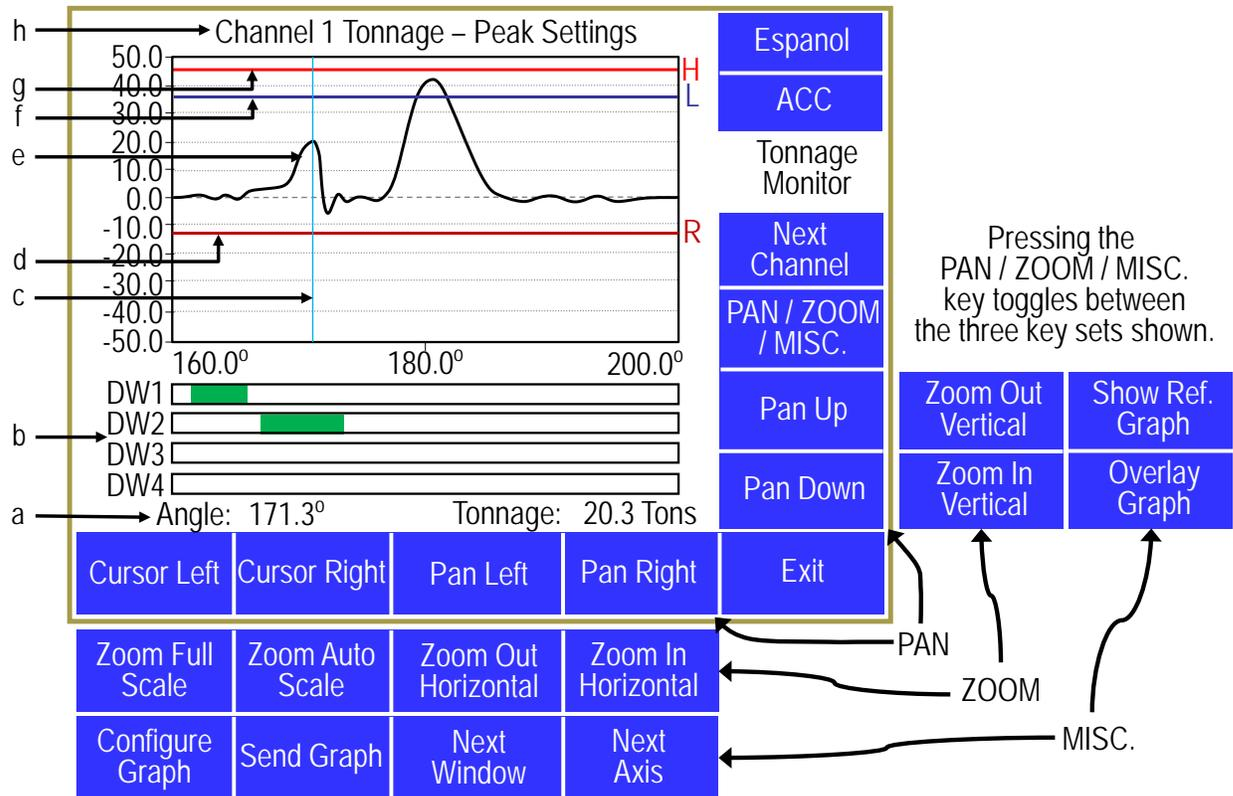

Figure 17: Tonnage Graph Screen
Notice that in Figure 17 there are three versions of several of the softkeys. The PAN / ZOOM / MISC softkey toggles between which key set is shown. When entering the screen, the PAN set is shown. Pressing the PAN / ZOOM / MISC softkey will cause the 4 horizontal keys and 2 vertical keys indicated in Figure 17 to change to the ZOOM set. Pressing PAN / ZOOM / MISC again will change those keys to the MISC. set. Pressing that key again will bring up the PAN set once again. Note that some keys may not display depending on configuration.
Referring to Figure 17, the features of this screen are:
- a) **Cursor Readout** The angle or time and its corresponding tonnage at the point where the vertical measuring cursor (at 171.3 degrees in Figure 17 and pointed to by “c”) is sitting.
- Next Channel Softkey** This softkey cycles through the channels displayed by the graph. A four channel tonnage monitor will cycle through channel 1, channel 2, channel 3, channel 4, total tonnage, and then back to channel 1. Likewise, a two channel tonnage monitor will cycle through channel 1, channel 2, total tonnage, and then back to channel 1. The channel being displayed is indicated in the title above the graph as shown by “h” in Figure 17.
- PAN / ZOOM / MISC. Softkey** Toggles between PAN, ZOOM, and MISC. keys are shown in Figure 17.
To display a reference waveform, press the **Show Ref. Graph** softkey (as seen in Figure 17). Note that this softkey will only be displayed if a reference waveform has been previously stored for the current job and the **MISC.** keys are being displayed using the **PAN / ZOOM / MISC.** softkey. The reference waveform will show in green, overlaid with the current waveform which will still be in black. Once the reference waveform is displayed, the **Show Ref. Graph** key changes to **Hide Ref. Graph**. Pressing this key again will remove the reference waveform from the screen leaving only the current waveform.